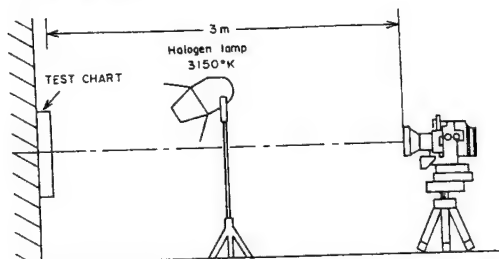

Fig.4-12
2. Set the test chart (reflection type), halogen lamp and CAMERA BLOCK as shown in Fig.4-12.